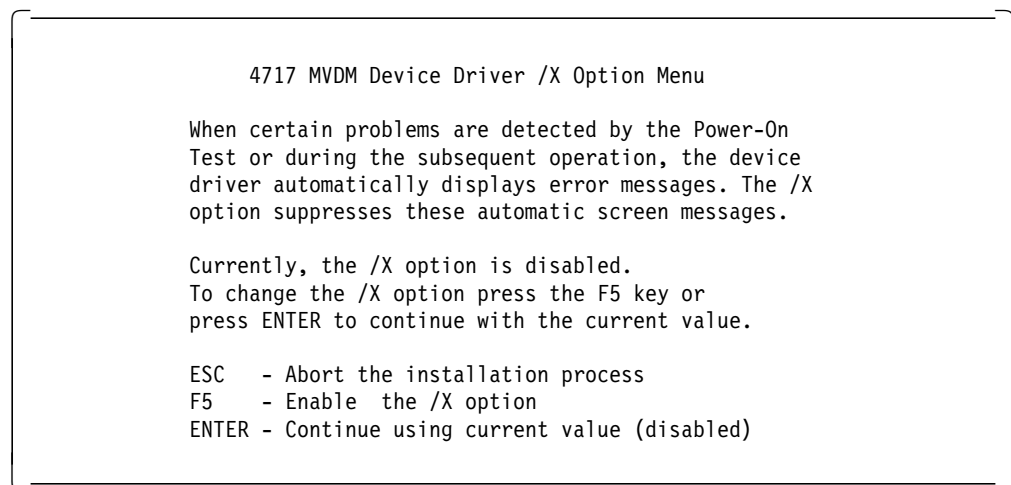

Figure 55. 4717 MVDM Device Driver /X Option Menu
4. Press Enter and Figure 55 will be displayed if you chose to install the MVDM device driver support.